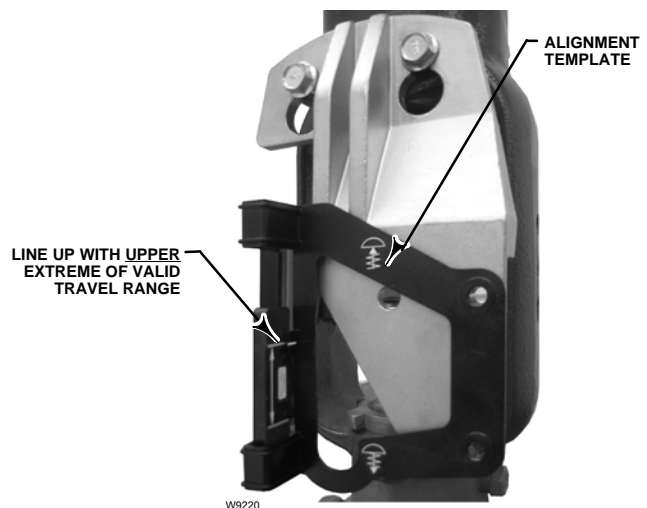

Figure 2-4. Air-to-Open Magnet Array Alignment
- **For air-to-open actuators (e.g. Fisher 667)** vertically align the magnet array so that the center line of the alignment template is lined up as close as possible with the upper extreme of the valid travel range on the feedback array. See figure 2-4.